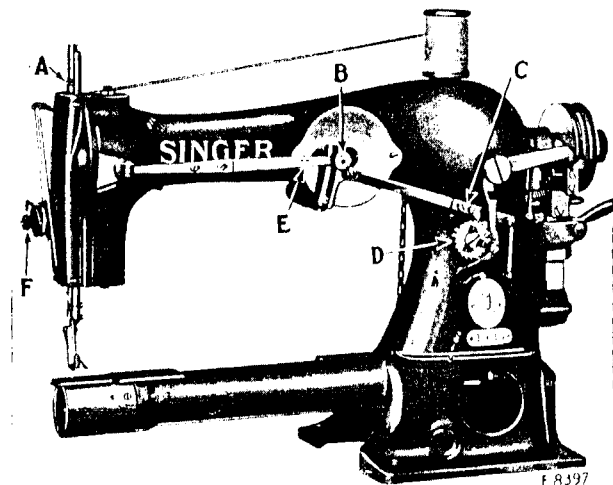

FIG. 11
The tension on the needle thread should be regulated only when the presser foot is down. Having lowered the presser foot, turn the small thumb nut (F, Fig. 11) at the front of the tension discs over to the right to increase the tension. To decrease the tension, turn this thumb nut over to the left.
The length of the overseaming stitch or extent of the lateral vibrations of the needle is regulated by raising or lowering the rear end of the needle vibrating connection (E, Fig. 11) which is fastened to the sliding block located in the slotted lever at the right of the machine. To increase the length of stitch, loosen the thumb nut (B, Fig. 11) which locks the sliding block in position and raise the rear end of the needle vibrating connection (E). To shorten the stitch, lower the rear end of the needle vibrating connection (E). When the desired length of stitch is made, securely tighten the thumb nut (B) to lock the sliding block in position in the slotted lever.
The pressure on the material is regulated by the thumb screw (A, Fig. 11) on the top of the machine. To increase the pressure,
Take out the screw which holds the stitch ratchet wheel (D, Fig. 11) in position at the right side of the upright part of the arm and remove the stitch ratchet wheel.
When changing the ratchet wheel (D) for another having a different number of teeth, it may be necessary to change the adjustment of the ratchet wheel driving lever pawl (C, Fig. 11) so as to have the pawl (C) properly engage the teeth. To make this adjustment, loosen the two screws which hold the pawl (C) in position and move the pawl forward or backward, as required, then securely tighten the two screws.